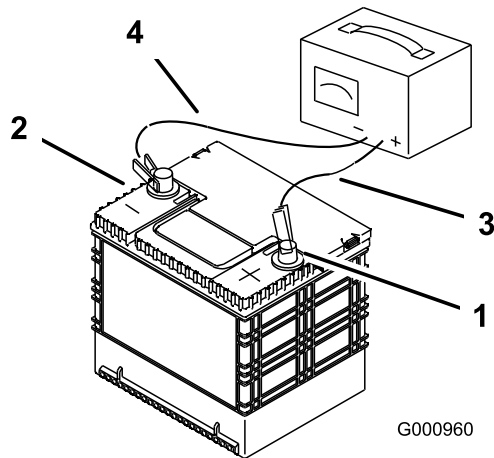

Figure 50
2. When the battery is fully charged, unplug the charger from the electrical outlet, then disconnect the charger leads from the battery posts (Figure 50).